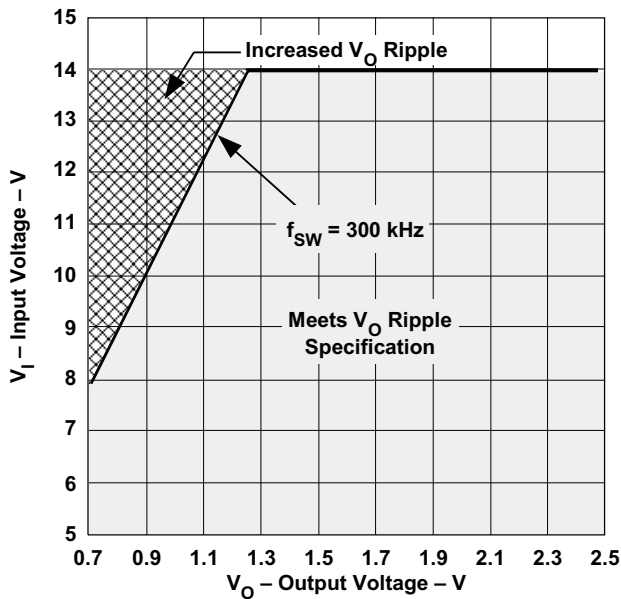
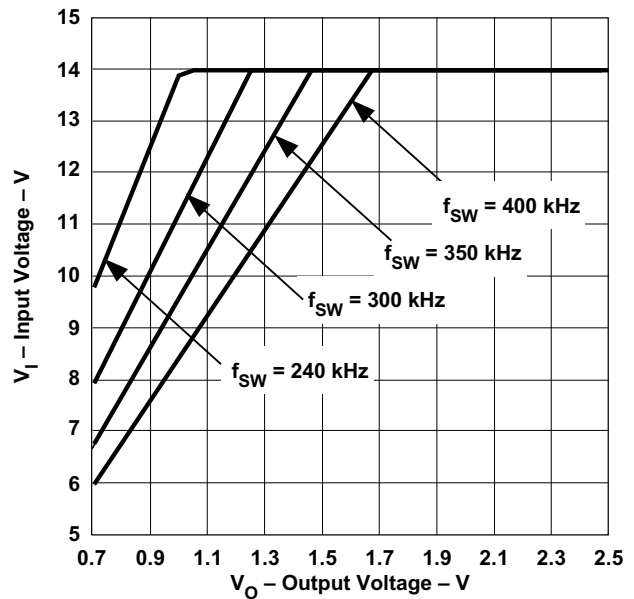

Figure 25. V_O Ripple Regions at 300 kHz
Figure 26. V_O Ripple Regions
Synchronizing to a higher frequency and operating with a low duty cycle may impact output voltage ripple. When operating at 300 kHz, Figure 25 shows the operating region where the output voltage ripple meets the electrical specifications and the operating region where the output voltage ripple may increase. Figure 26 shows the operating regions for several switching frequencies. For example, a module operating at 400 kHz and an output voltage of 1.2 V, the maximum input voltage that meets the output voltage ripple specification is 10 V. Exceeding 10 V may cause an increase in output voltage ripple. As shown in Figure 26, operating below 6 V allows operation down to the minimum output voltage over the entire synchronization frequency range without affecting the output voltage ripple. See the ELECTRICAL CHARACTERISTICS table for the synchronization frequency range limits.
- A. For Figure 25, operation above a given curve may cause the output voltage ripple to increase (typically $2\times$).
- B. For Figure 25, when operating at the nominal switching frequency refer to the 300 kHz plot.